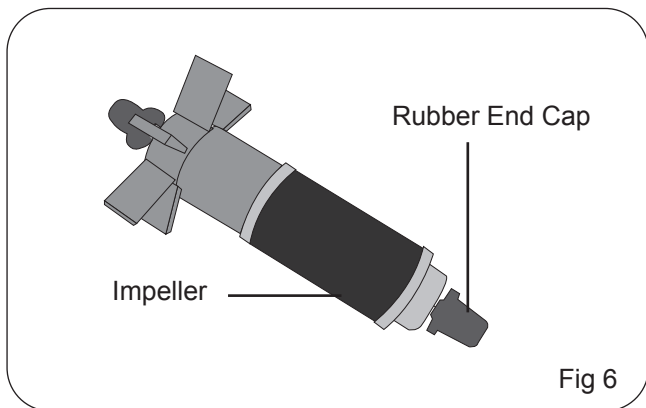

Fig 6
17. Use the second Walking Stick for the inlet. Refer to Fig 6 for assembly.
17. Pull the rubber end cap off the shaft of the impeller and run water through the hole in the middle of the impeller. Clean any debris which may have built up on the shaft off, along with any slime build up on the impeller. Fig 6